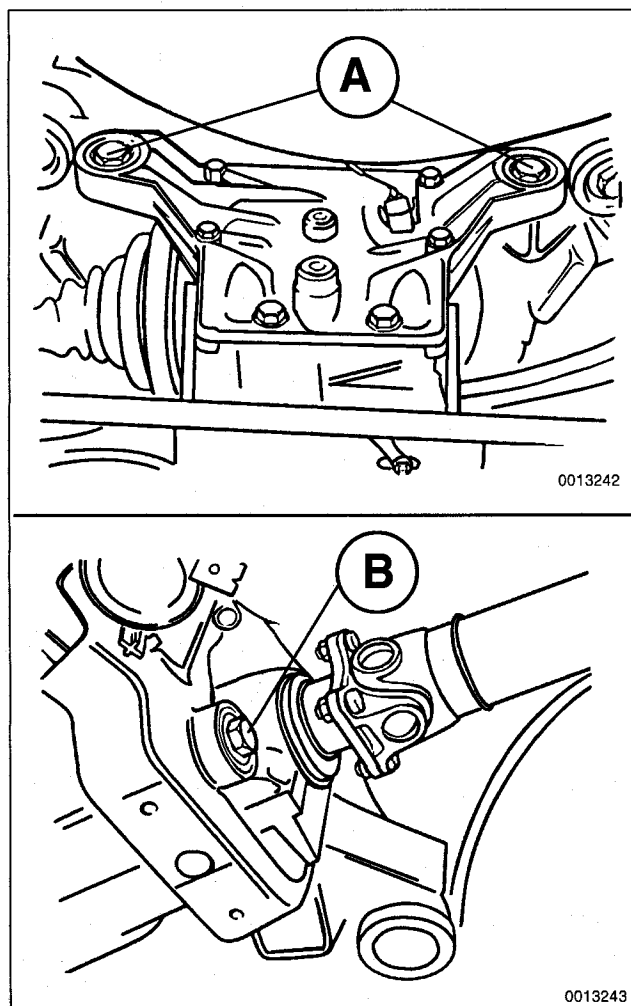

Fig. 5. Final drive to final drive carrier rear (A) and front mounting bolts (B).
6. Support final drive with transmission jack. Remove mounting bolts at front and rear. See Fig. 5.